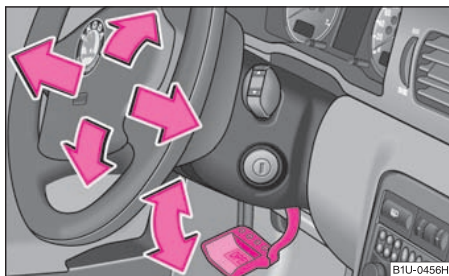

Fig. 103 Adjustable steering wheel: Lever below steering column
- Pull the lever below the steering column ⇒ fig. 103 down ⇒ ⚠.